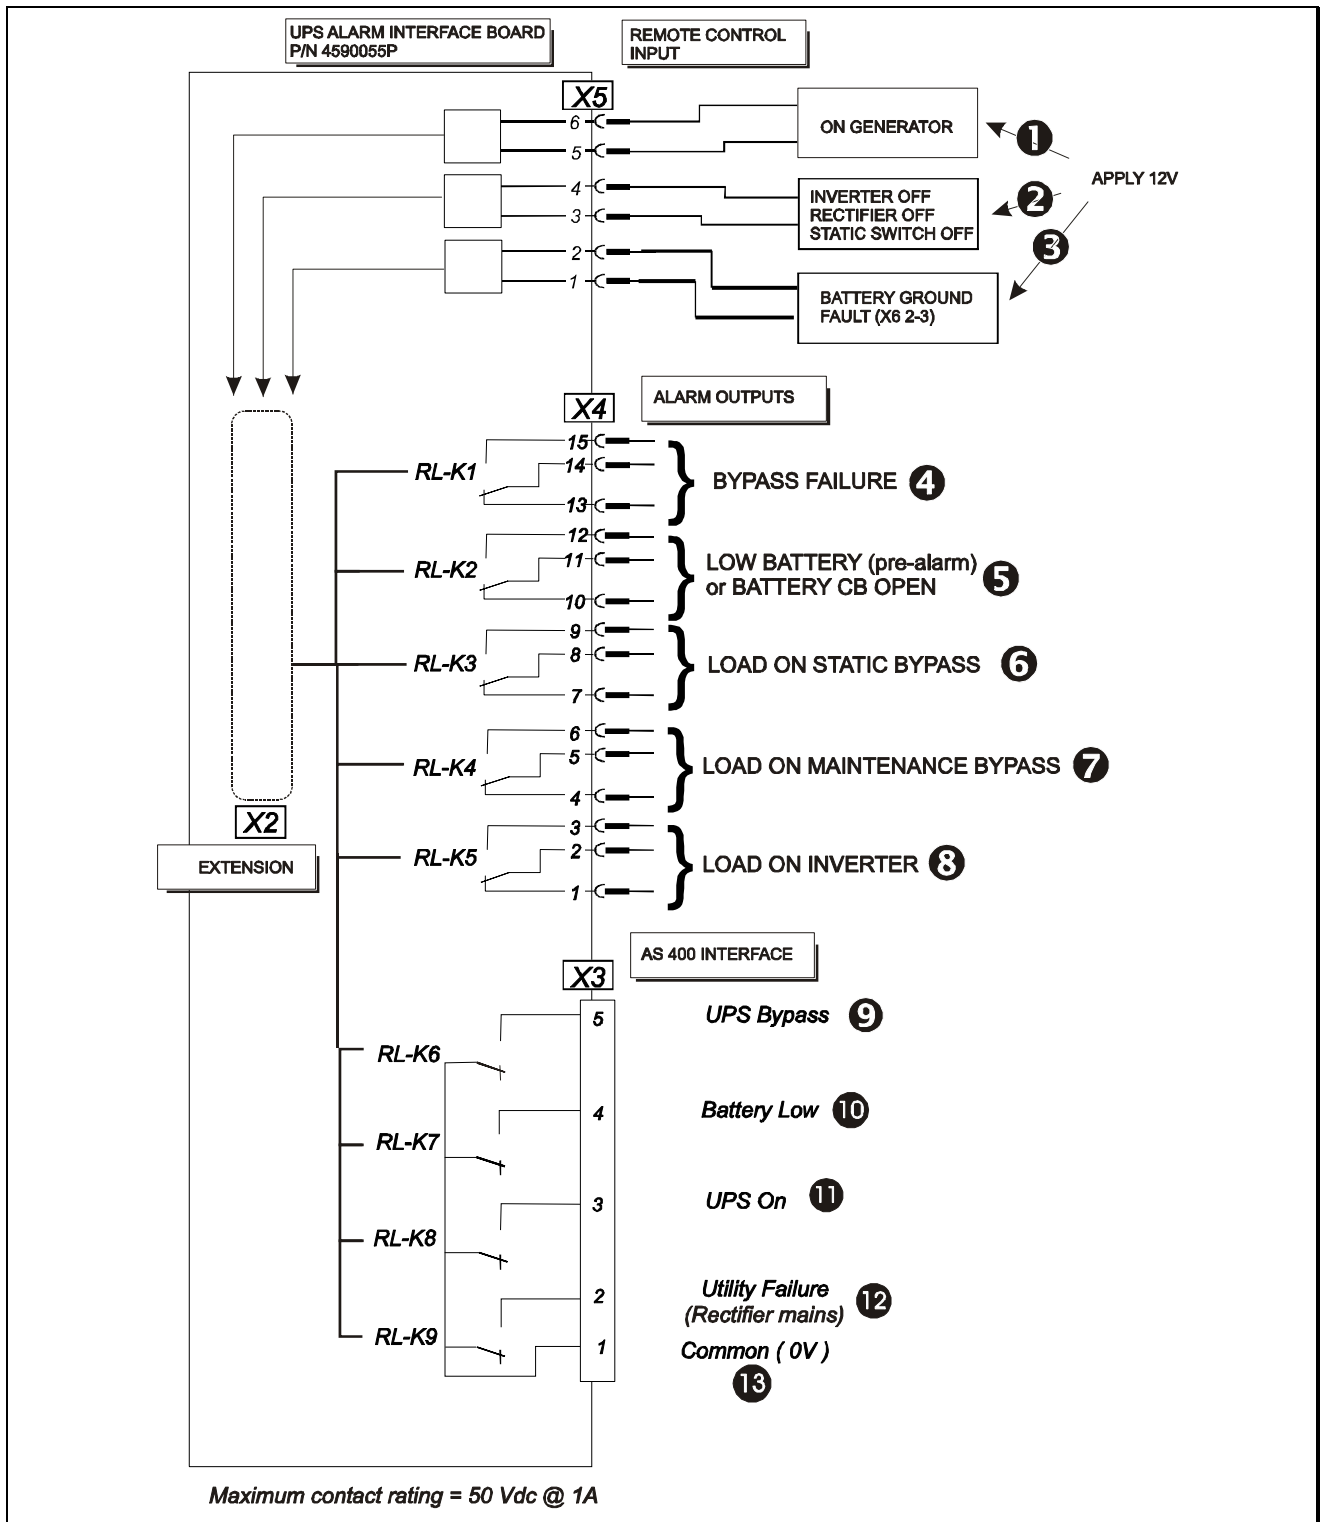

Figure 12-2 – UPS I/O AS400 Alarm Interface Board (P/N 4590055P)
The Interface Board has facilities to accept three remote control inputs on terminal block (X5), as shown in figure 12-2. The remote controls are:
- 1) Control is achieved by application of control signals (12V d.c. or a.c.) to terminal block X5 as shown in figure 12-2.
In addition to the AS400 alarm outputs the Interface Board also contains a number of relays whose contacts provide a set of volt-free alarm outputs that are connected to terminal block X4 as shown in figure 12-2. These outputs can be used to drive an external alarms monitoring device. Maximum contact rating on terminals = 50 Vdc @ 1A.